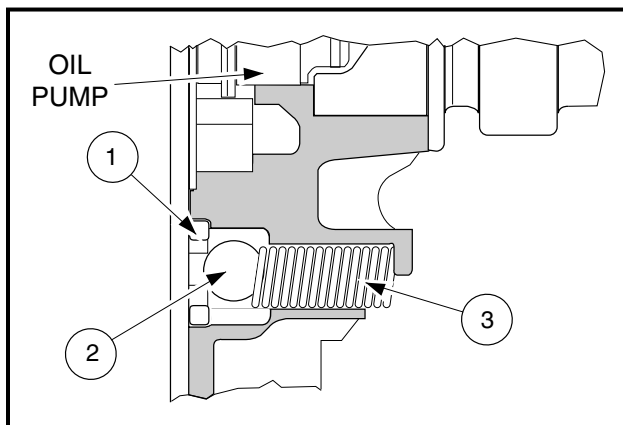
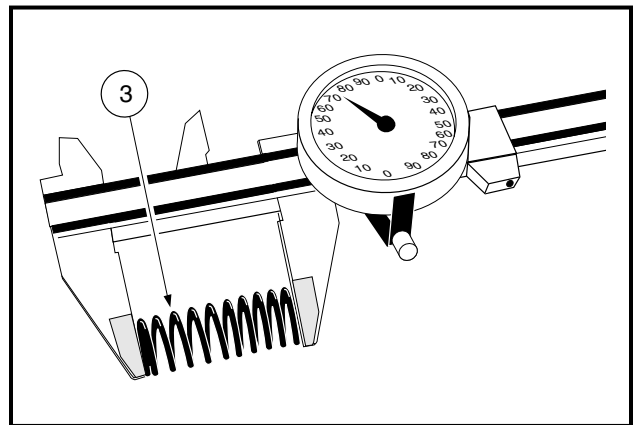

Figure 3-63 Oil Pressure Relief Valve
Figure 3-64 Measure Free Length of Spring
2. Remove the valve seat (1), ball (2) and spring (3) (**Figure 3-63, Page 3-31**).
1. Note the condition of the ball (2) and the valve seat (1). They must not have any nicks or burrs. Replace if necessary (**Figure 3-63, Page 3-31**).
2. Inspect the relief valve spring (3) for pitting, cracks, rusting and burrs. Replace if necessary.
3. Measure free length of the spring (3) with a vernier caliper (**Figure 3-64, Page 3-31**). If the free length of the relief valve spring is less than 0.748 inches (19.00 mm), replace the spring.